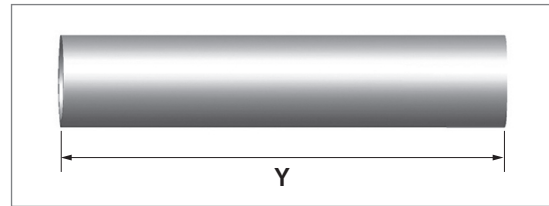

Figure 2.
3. Cut the tube to this calculated length Y (see Figure 2). The cut length must be no shorter than 1/8" from specification.